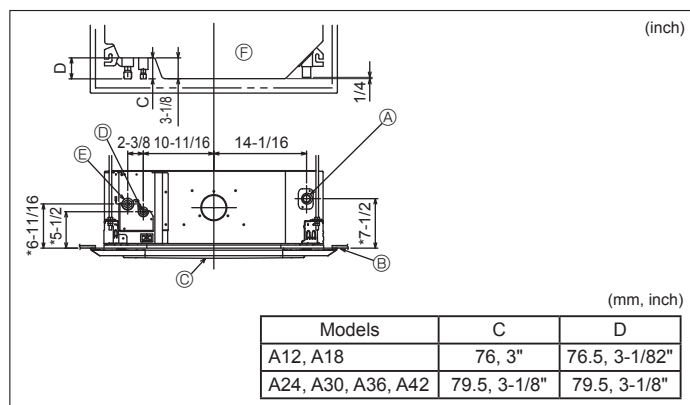

Fig. 3-3
3.3. Refrigerant and drainage piping locations of indoor unit (Fig. 3-3)